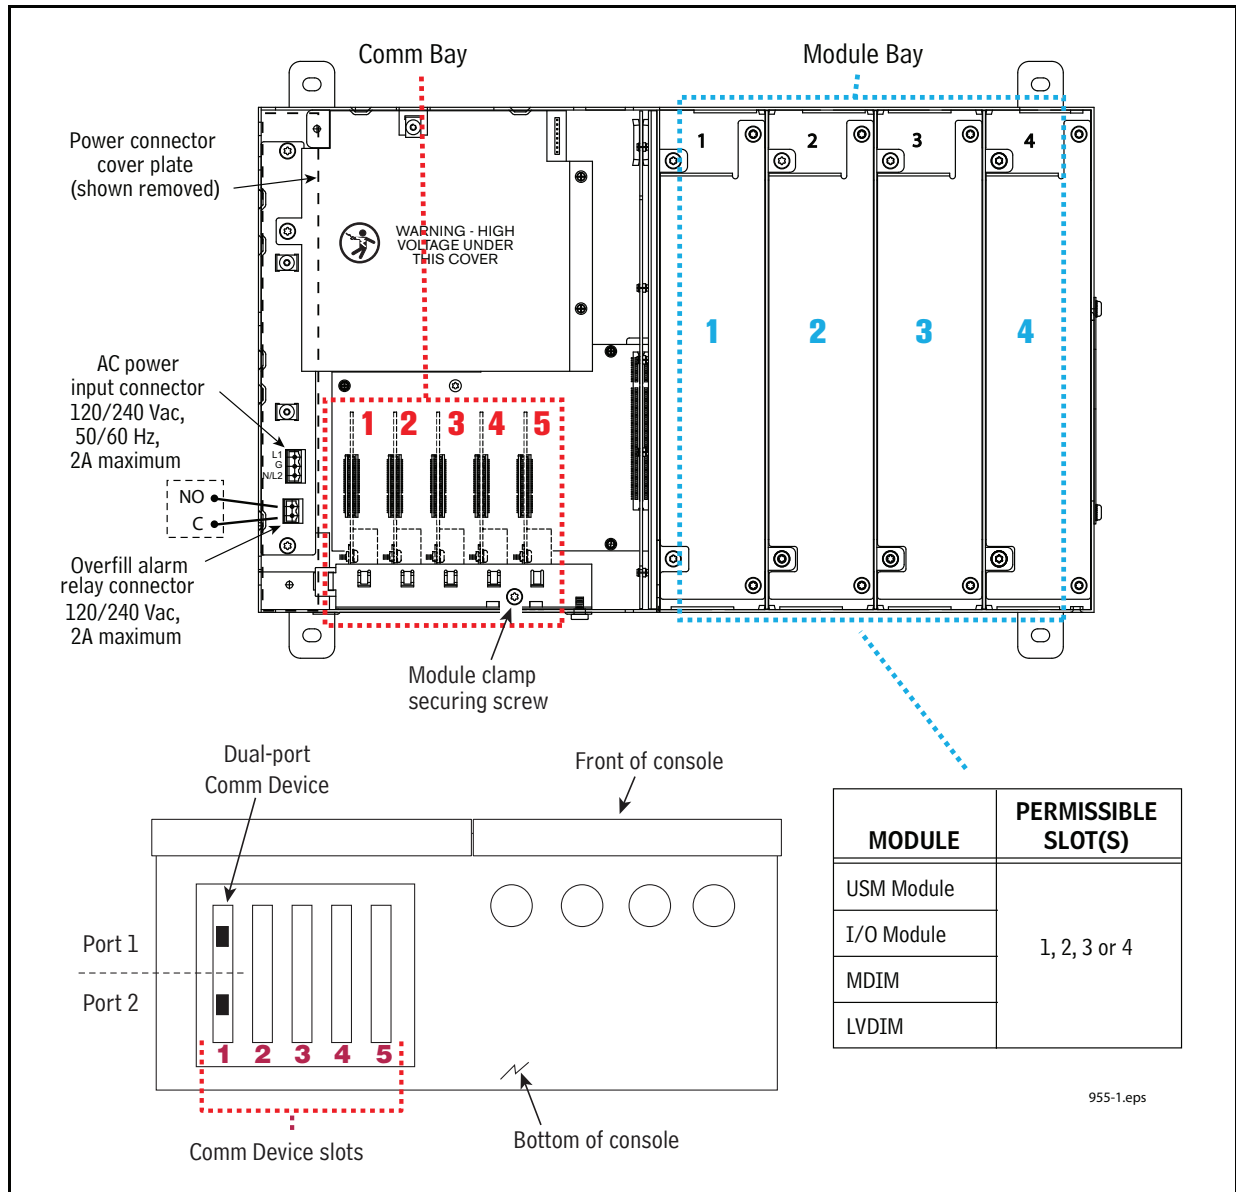

Figure 5. TLS-450 console plug-in module bays
Figure 5 illustrates the maximum number of modules allowed in each of the two bays of the console.
3. Each Interface slot is numbered from 1 to 4 from left to right as shown in Figure 5.
The TLS-450 doesn't have pre-assigned slots for the Module bay modules so you can use any of the four slots to accommodate intrinsically safe (USM) or non-intrinsically safe (I/O, MDIM, etc.) modules (see Figure 5). Since the Module Bay modules can be installed in any of these 4 slots, install them where it makes the most sense for conduit connections. Caution! USM wiring inputs are intrinsically safe and conduit containing this wiring must attach to the knockouts above or below the slot in which you install the USM module.
3. Figure 5 illustrates acceptable Intrinsically-Safe USM module positions in the Module Bay of the console. After installing the USM module, remove a connector from the USM module, loosen the screws, insert your wires and tighten well. Don't let loose wires on the connector drive you crazy when you begin the startup and probes or sensors are missing – make sure these wires are tight in the connector block. Connect all probe and sensor wires and then reconnect your block to the USM module.
3. Figure 5 illustrates acceptable Non-intrinsically Safe module positions in the Module Bay of the console.
3. The Comm Bay is divided into 5 communication slots numbered from 1 to 5 going left to right (see Figure 5).
5. Using a T-15 Torx driver, loosen the screw securing the Comm module clamp until you can remove the clamp (see Figure 5).
4. Communication modules are only allowed in specific communication slots defined in Figure 5 above.